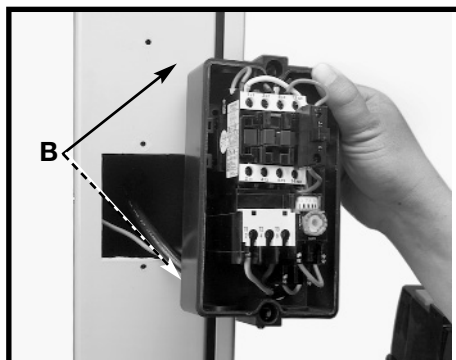

Fig. 4
2. Align the two holes of the On/Off switch with the two holes (B) Fig. 4 on the front of the saw.